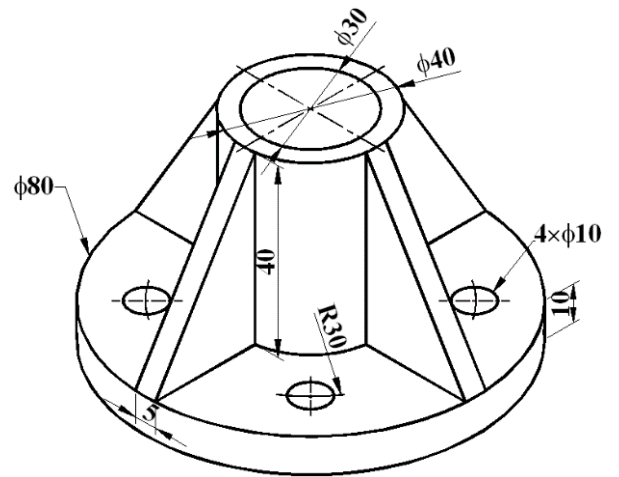

Figure 10.5
5. Draw sectional front view and top view of the objects shown in Figure 10.5. Use convention for the radially arranged holes, ribs and spokes.